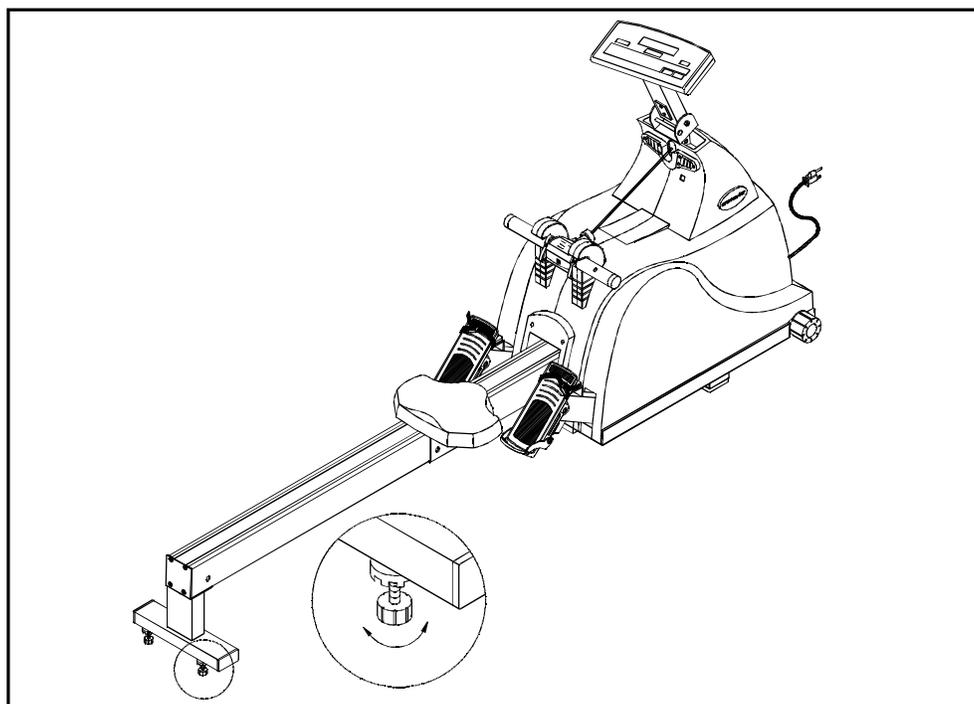

FIG.8
8. If the Linear rower is unsteady on your floor, turn the floor level adjustments on each end of the rear base. Raise or lower the floor level adjustments to steady your Linear rower (see Fig. 8).